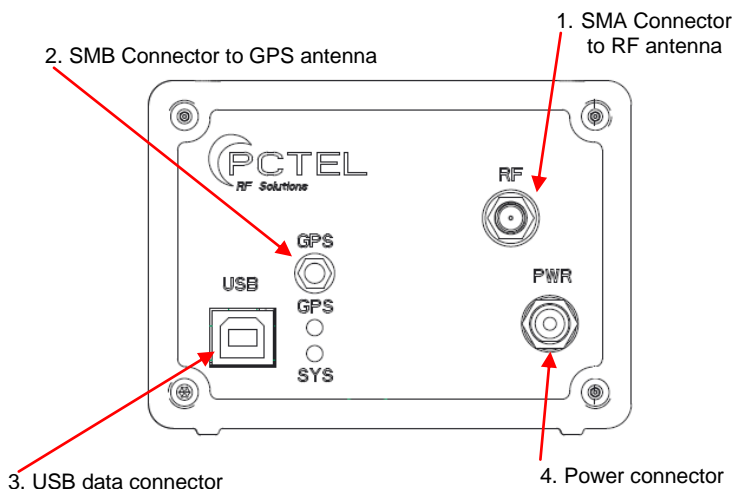

Figure 6 - SeeGull EXflex Scanning Receiver front display
1. Connect the antennas to the SMA connectors on the unit (*Figure 6*).